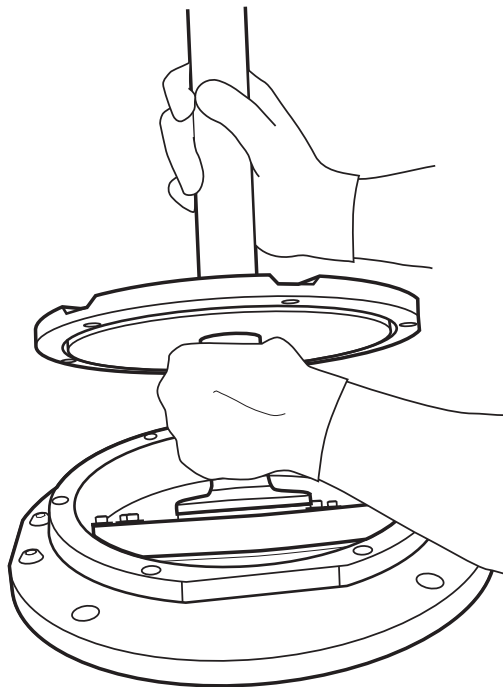

Figure 4.5: Carefully insert the adapter into the mouth of the column tube at an angle.
- 5 Carefully insert the adapter into the mouth of the column tube at an angle so that the adapter enters into the liquid or slurry and down into the column tube without trapping air bubbles. See Figure 4.5.